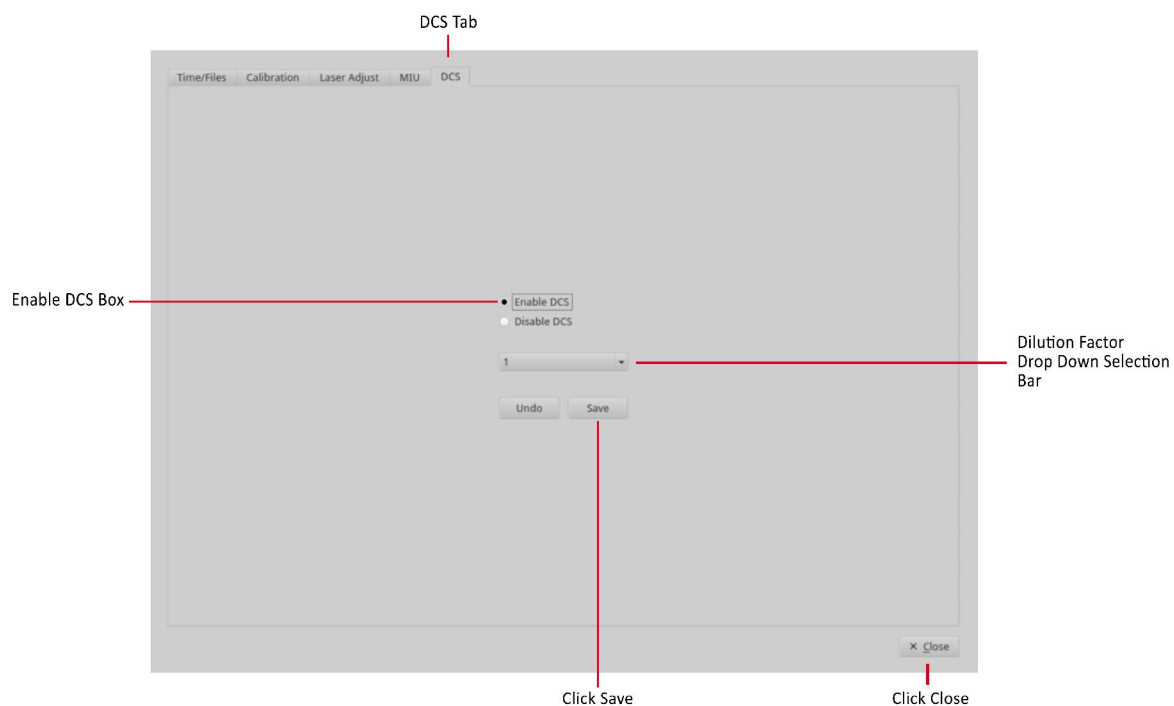

Figure 99: Enable EDDS
2. Click on the DCS tab at the top of the *Setup* menu selection bar. (Figure 99)
Figure 99 shows the DCS Screen for the EDDS enabled.